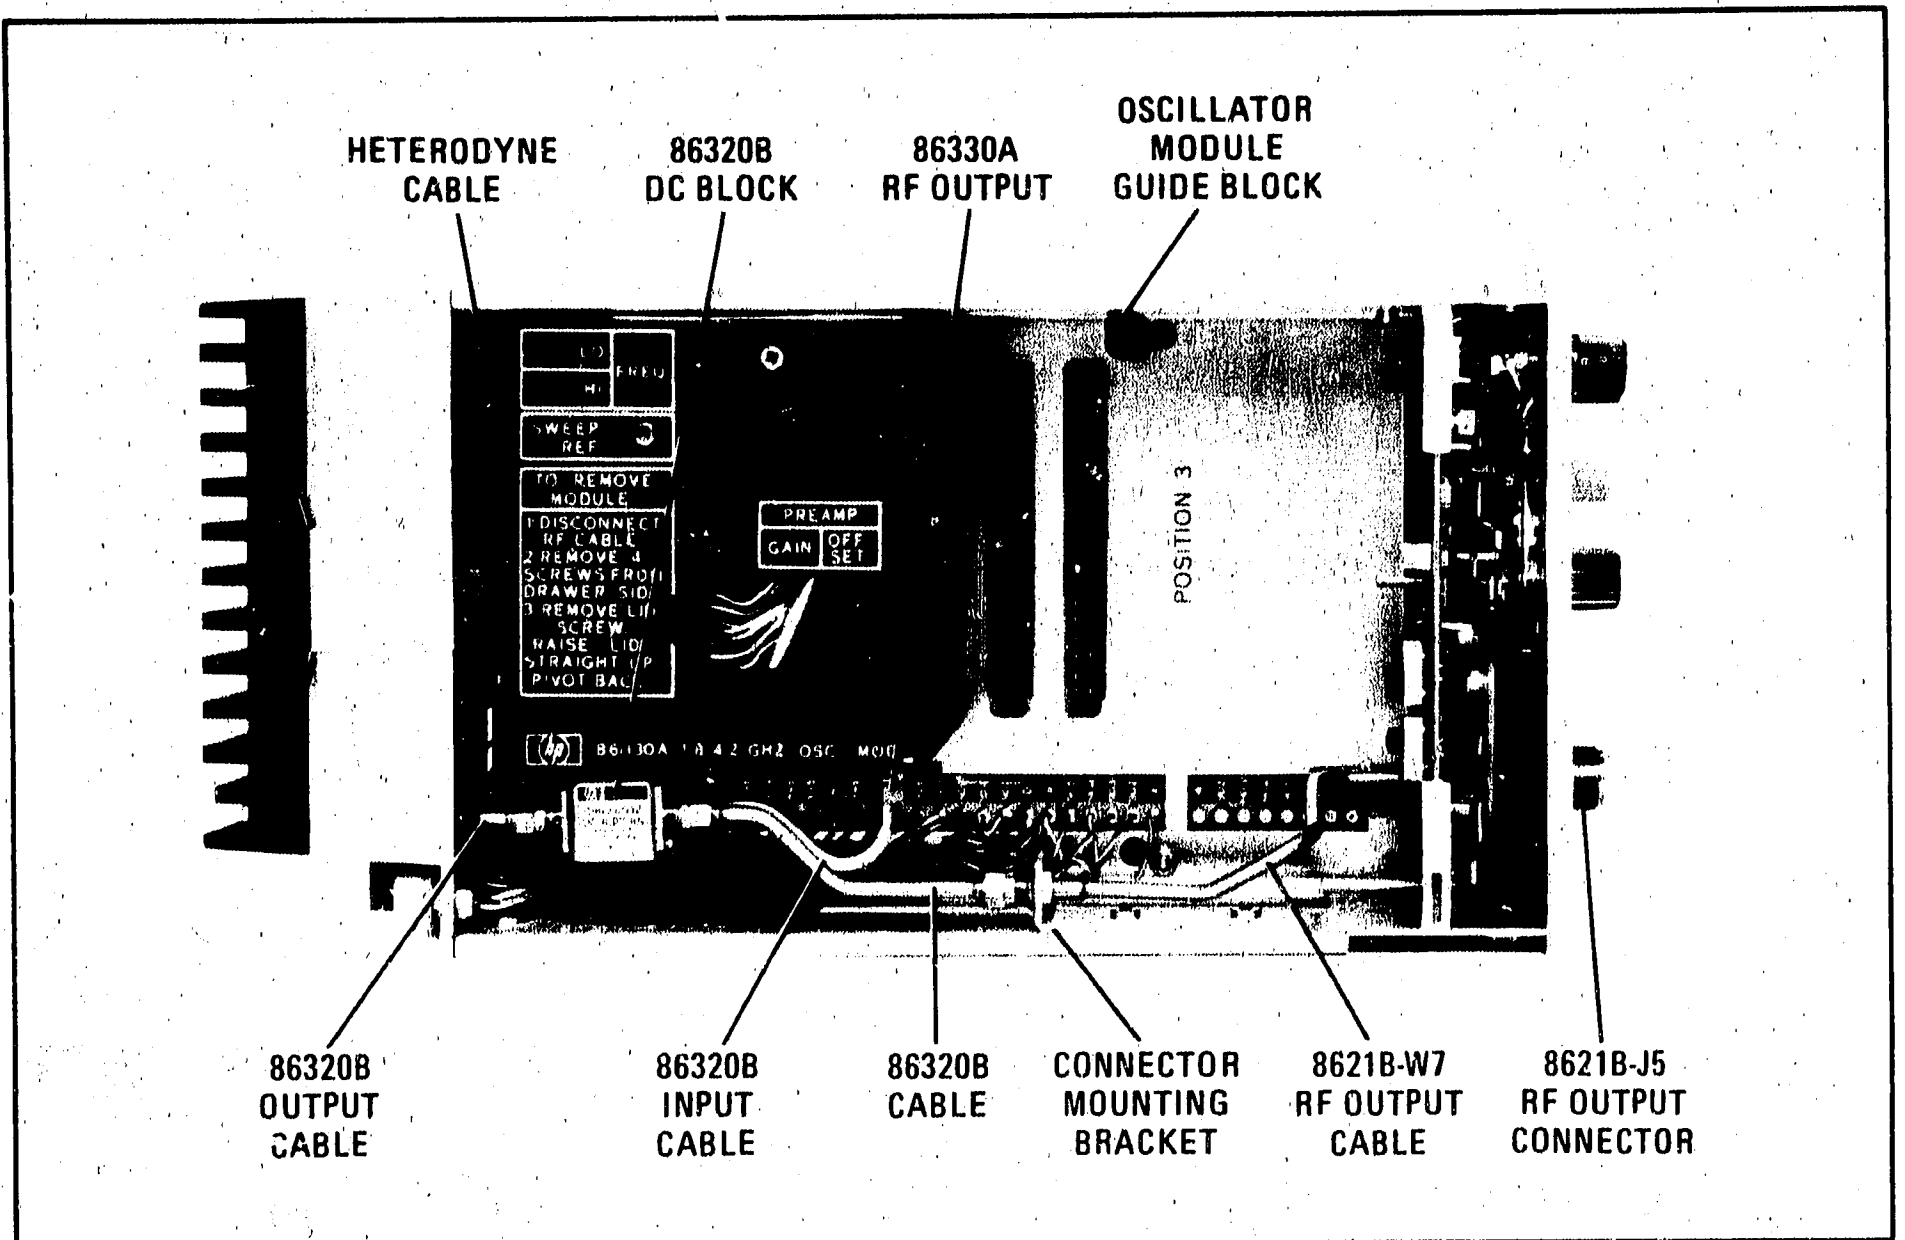
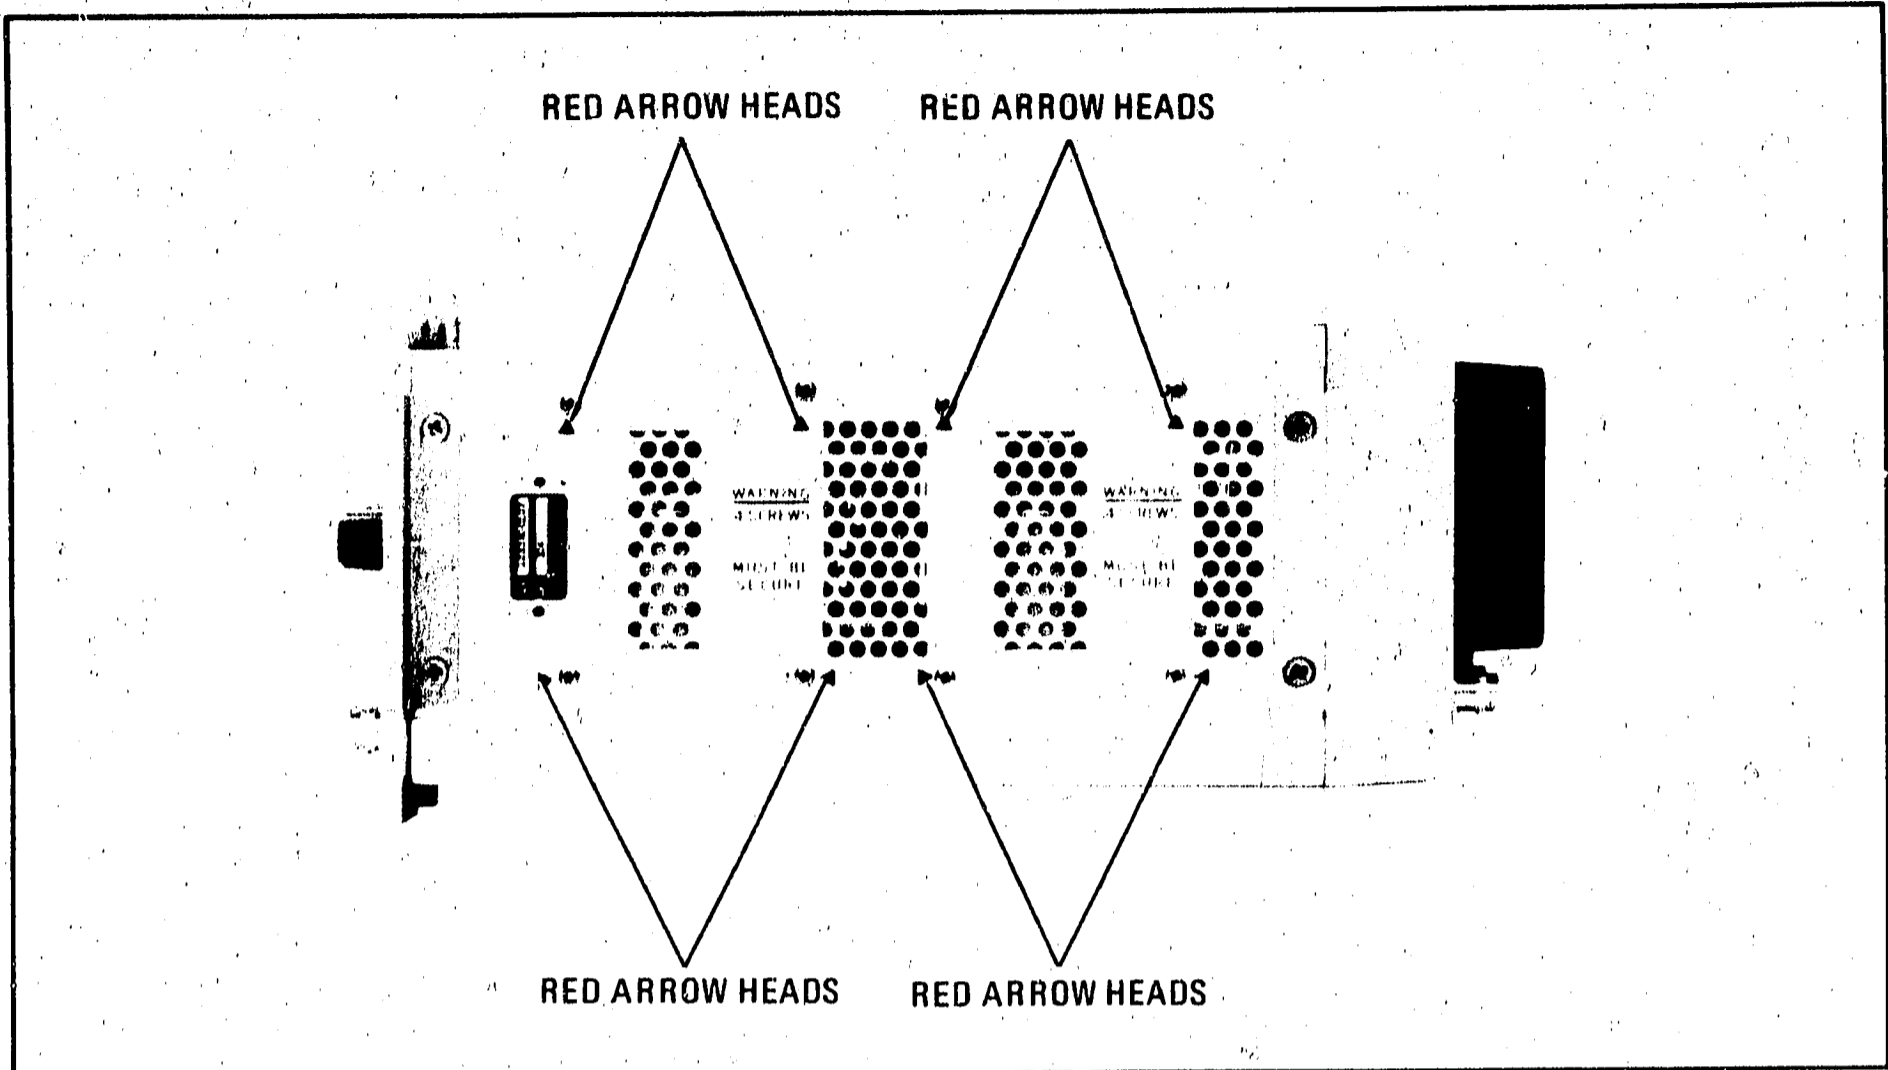

Figure 2-1. Cable Connections With Heterodyne Module Installed
Figure 2-2. Right Side of RF Section
- c. Install Oscillator Module in either position "2" or "3" by placing oscillator module guide slot over guide block (Figure 2-1) on right side of 8621B (looking from front). Slide module into position. Secure with four pozi-drive screws along right side. Screws are inserted from outside of 8621B and are located at red arrowheads. (See Figure 2-2).
- e. With 5/16-inch wrench, connect 86320B output cable to middle port of heterodyne module, and connect 86320B input cable to bottom port. (See Figure 2-1.)